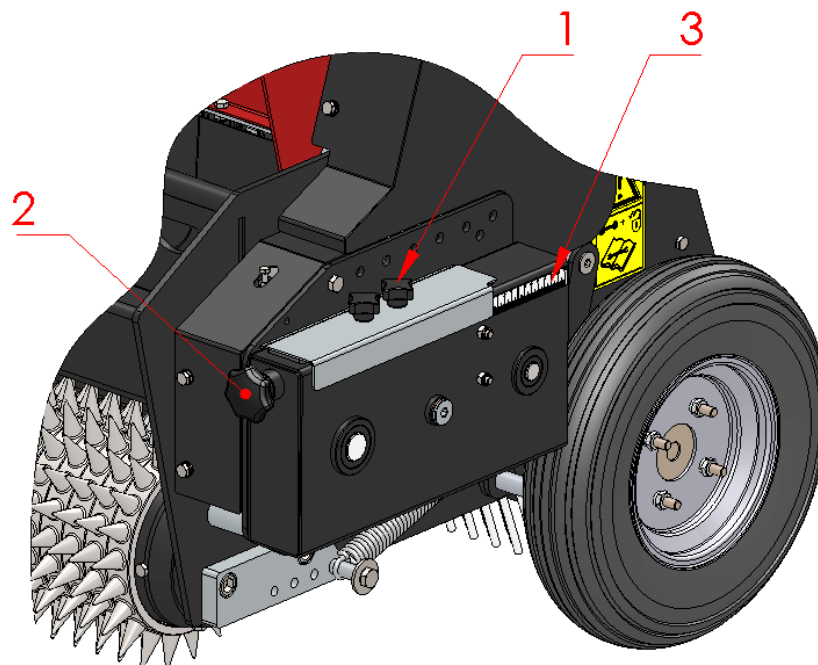

Figure 4
1. Loosen the stellar knobs (1) (see Figure 4).
2. Rotate the stellar knob (2) to change the settings. You can see the settings on the sticker (3).
3. Retighten the stellar knobs (1).